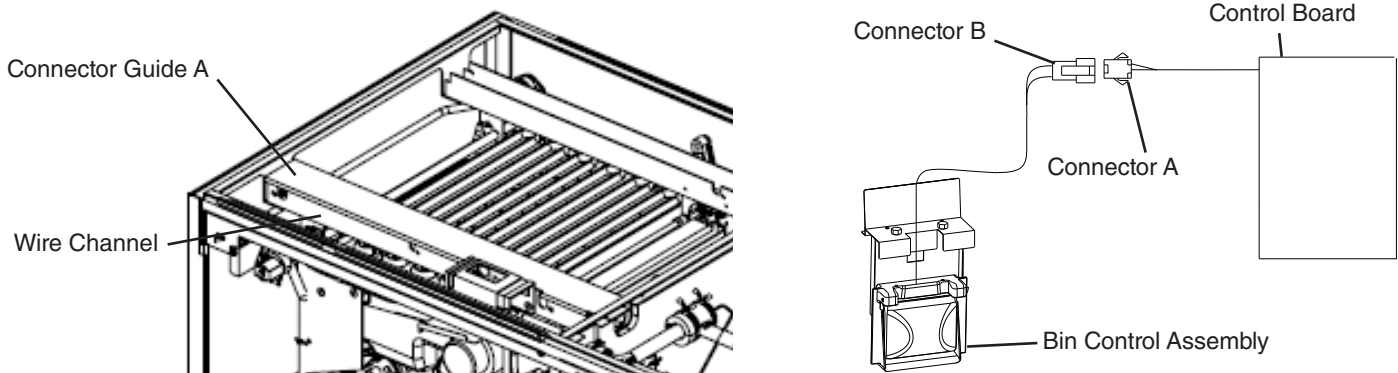

Fig. 2
- 6) Remove connector guide A, then disconnect the bin control connector located in the wire channel. See Fig. 2.